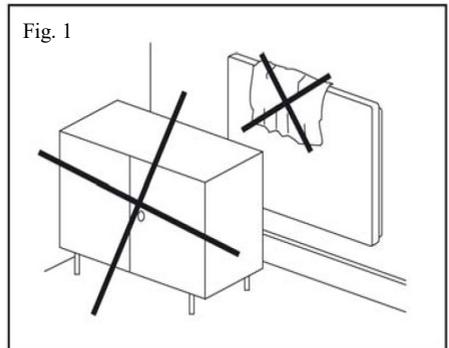
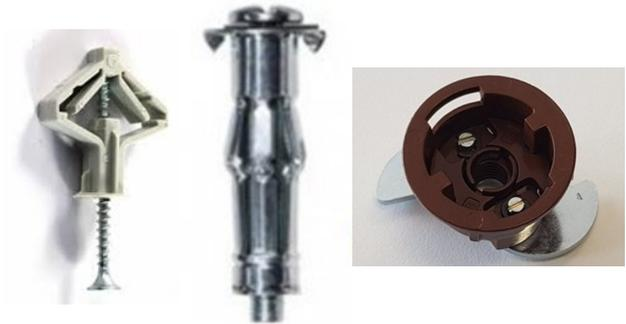

Fig.2
Fig.3
- It is forbidden to use wall anchors with a self-tapping thread to attach panels to plasterboard/gypsum fibreboard ceilings, see Fig. 2. Examples of suitable types of wall anchors can be seen in Fig. 3.